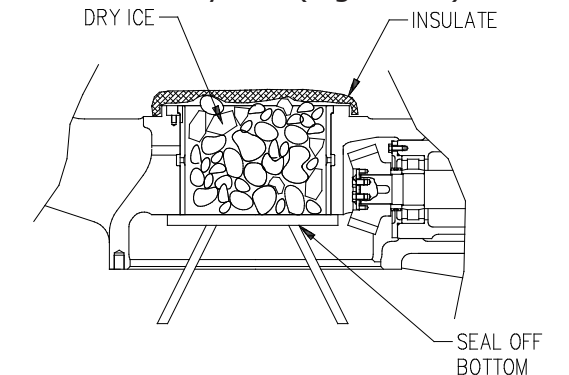

Fig. 6.8.9
15. If the outer bush is stuck, cool the outer bush with dry ice. (Fig. 6.8.9)